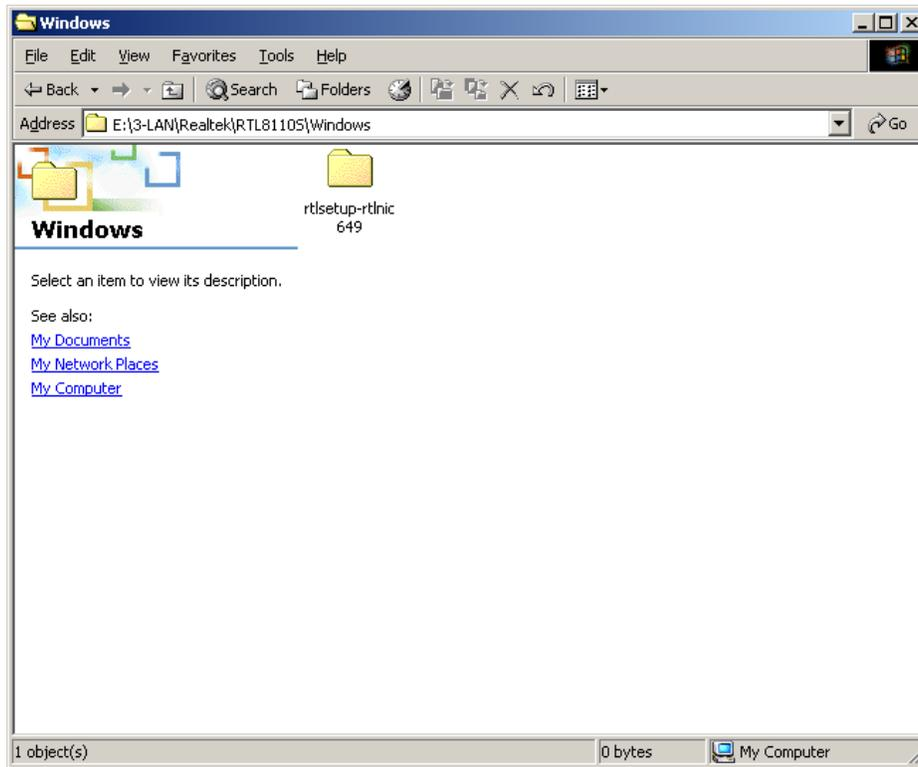

Figure 6-25: RealTek Setup Icon
Step 5: Select the RealTek Setup Icon shown in **Figure 6-25**.